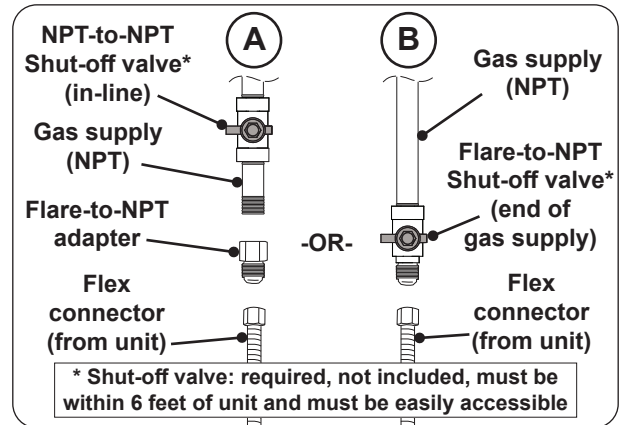

Fig. 20-2 Connecting to a gas line
- Install the supplied flare-to-NPT adapter to the gas supply (NPT) using a pipe joint compound resistant to all gasses (see Fig. 20-2, A). Tighten securely.
- Connect the flex connector to the adapter (see Fig. 20-2, A). Tighten securely.
- Connect the flex connector to the shut-off valve (flare) (see Fig. 20-2, B). Tighten securely.